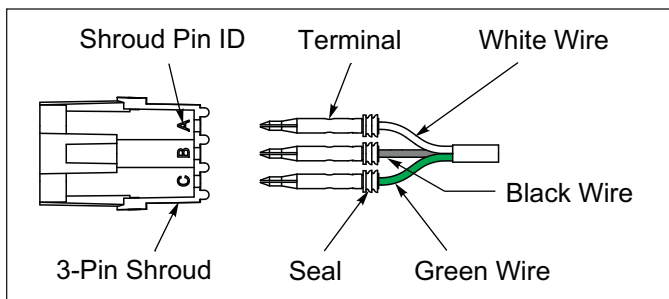
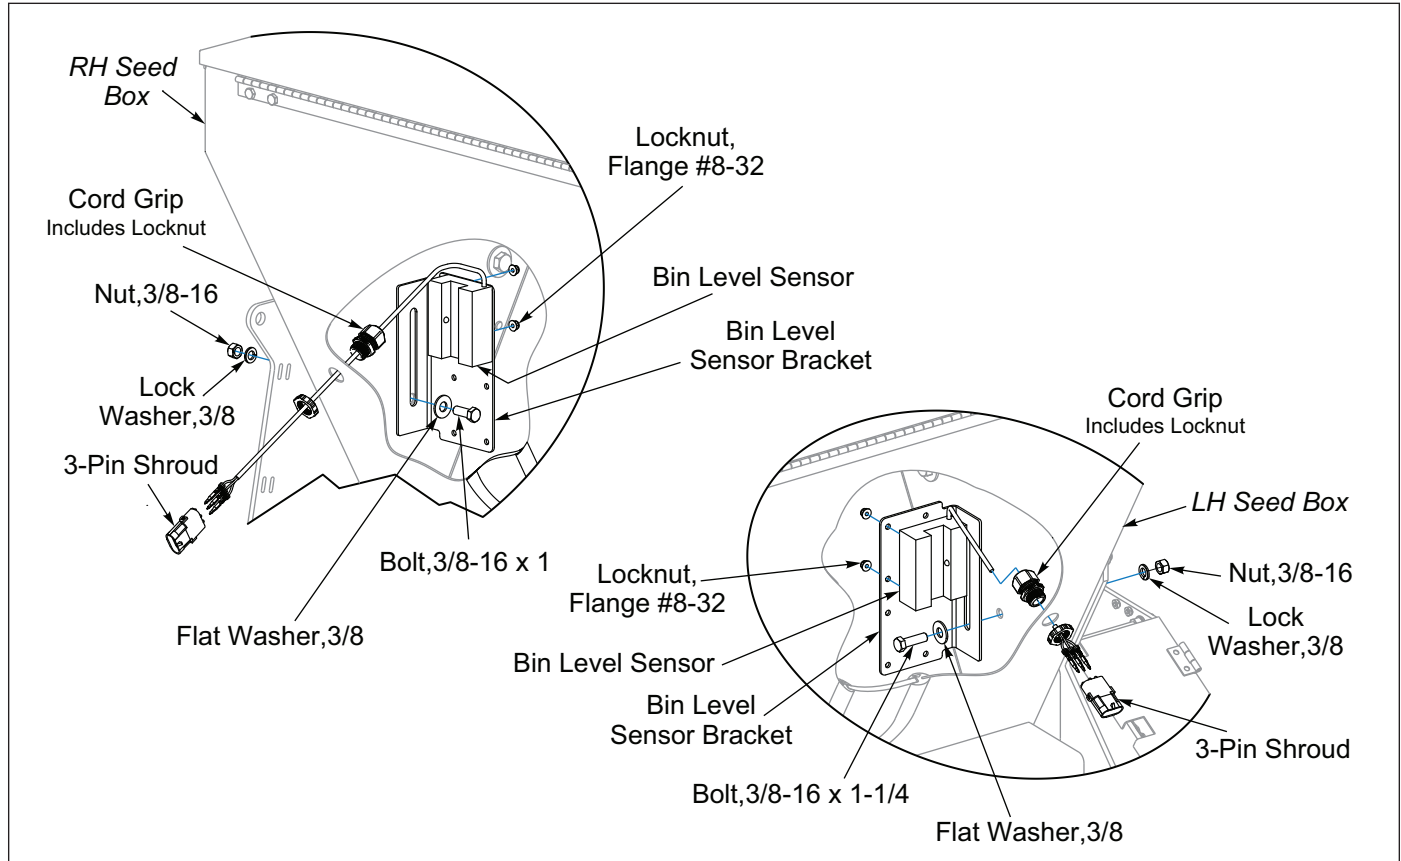

Figure 2-25: Bin Level Sensor Wire Detail
Figure 2-30: Brillion Elite Mini Monitor - Bin Level Sensor Bracket
6. On the inside at either end of the Seed Box, install a Bin Level Sensor Bracket with the Seed Box Mounting 3/8-16 Hardware. See **Figure 2-30**. Determine the desired level for the alarm to be indicated on the Brillion Elite Mini Monitor and assemble the Bin Level Sensors to Bin Level Sensor Brackets with sensor provided hardware and #8-32 Flange Locknuts. If more adjustment is needed, the Bin Level Sensor Brackets can also be raised or lowered to the desired seed level. Install Cord Grips from the inside of the Seed Box out and secure with supplied Locknut on the outside of the Seed Box. To get the Sensor Connector outside the Seed Box, feed the terminals through the Cord Grip. Install the terminals into the 3-Pin Shroud labeled "A", "B" and "C" as follows "A" White, "B" Black, "C" Green. See **Figure 2-25**. Inside the Seed Box, provide enough cord slack to the Bin Level Sensor Cord to allow for future adjustments of the Sensor. Secure the Bin Level Cord by tightening the Cord Grip Compression Nut. Connect both Bin Level Sensors to the Seeder Harness.